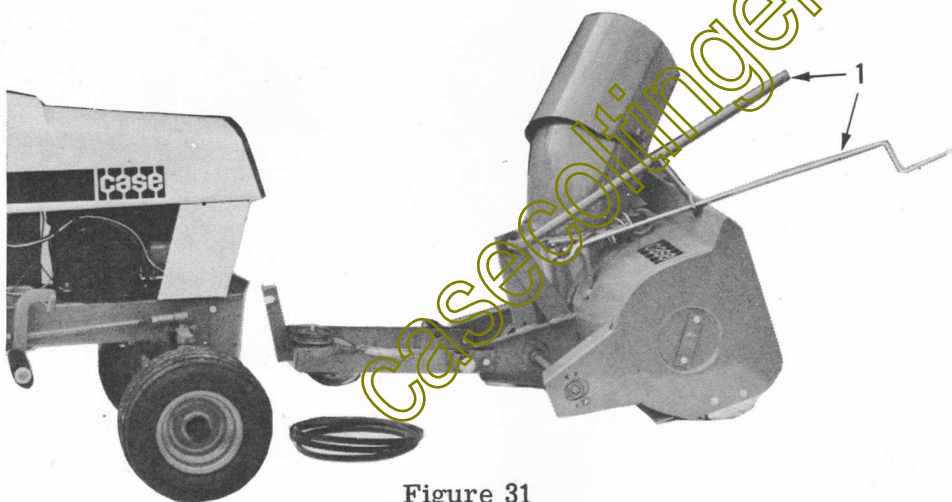

Figure 31
1. Position the snowcaster in front of the tractor with the lift arm and crank assembly folded forward. See Figure 31.